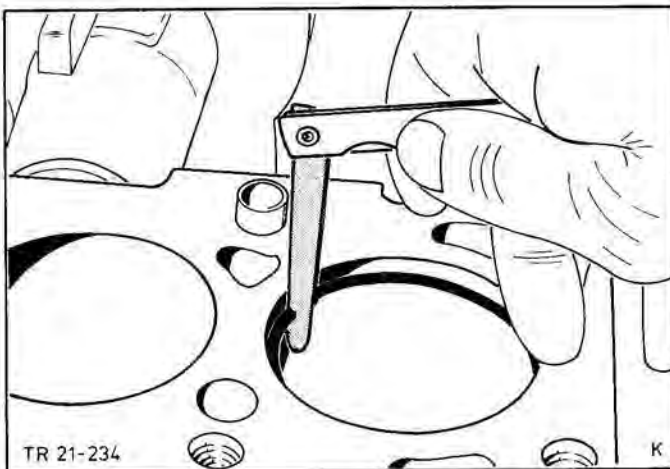

Fig.48. Check piston ring gaps.
- Before fitting the pistons, check the gaps of the piston rings, Fig.48. The indicated dimensions (see Technical Data) relate to the gauge ring used in production and cylinder measurements may exceed these by 0,15 mm.